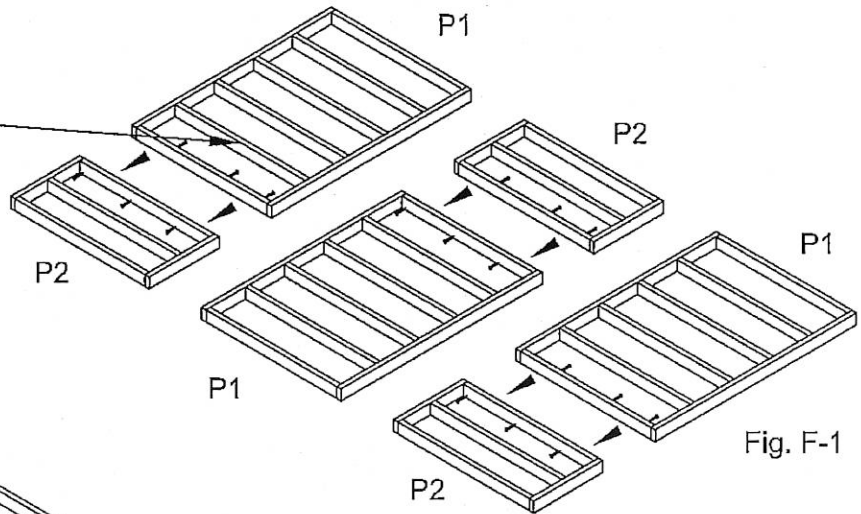

Fig. F-1
1. Begin the floor assembly by attaching each of the P1 and P2 joist boxes together using 6-3" screws per set. See Fig F-1 for details.